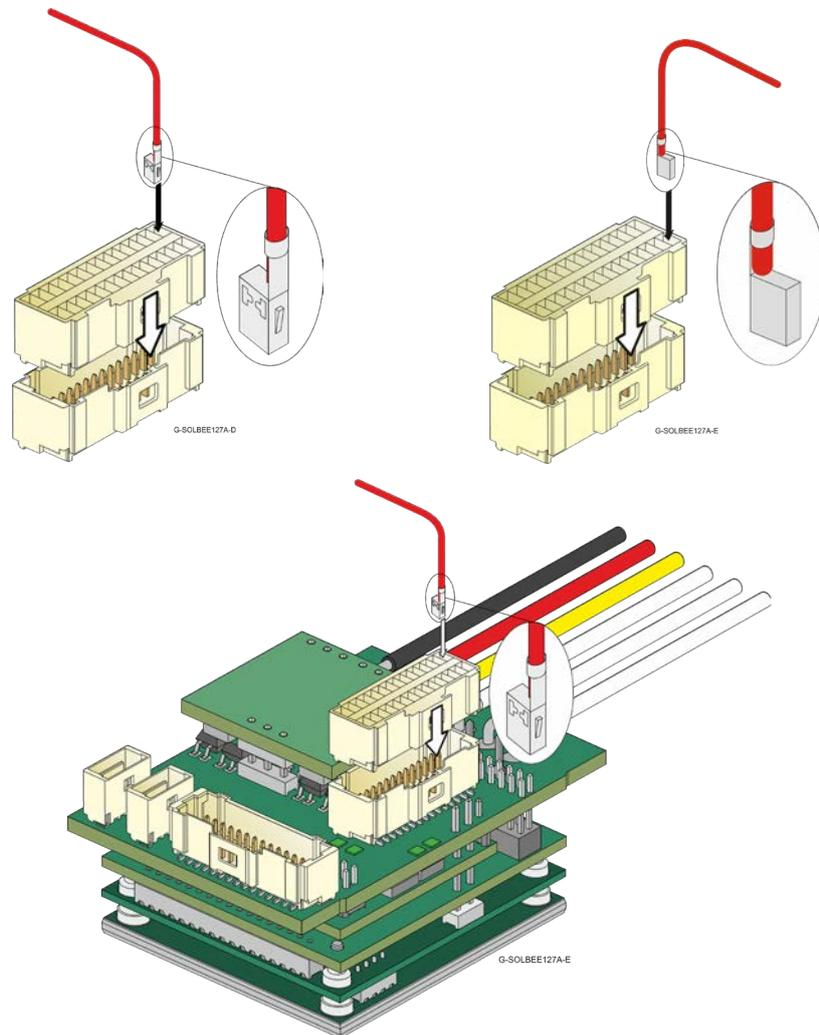

Figure 7: Inserting a wire/pin to the Female Connector
3. Place the connector on a flat surface, in the orientation as shown in Figure 7. Notice that the rectangular slot has a niche at the bottom of the slot.
4. Insert the wire connector to the slot as shown in Figure 7. Make sure that the connector protrusion is inserted to the bottom of the rectangular slot. When inserting the wire connector to a slot in the second row, make sure to rotate the connector in the opposite orientation.